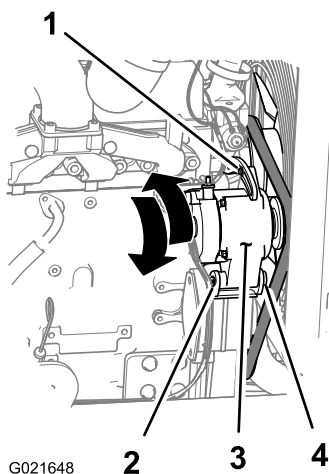

Figure 86
1. Loosen the nut and bolt at the pivot point for the alternator (Figure 86).
- Loosen the adjustment bolt on the alternator (Figure 86).
- Move the alternator away from the engine to increase the belt tension; move the alternator toward the engine to decrease the belt tension (Figure 86).
- Tighten the alternator adjustment bolt (Figure 86).
- If the belt tension is correct, tighten the nut and bolt at the pivot point for the alternator (Figure 86); otherwise repeat steps 2 through 5.
- Loosen the nut and bolt at the pivot point for the alternator (Figure 86).
- Move the alternator toward the engine to loosen the belt enough so that you can remove it from the alternator pulley (Figure 86).